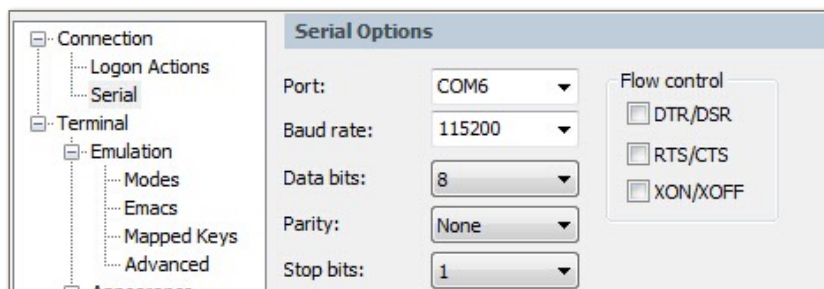

Figure 2-1. Configuration of Serial Options
- The default baud rate is 115200. The configuration of serial options is shown in Figure 2-1.